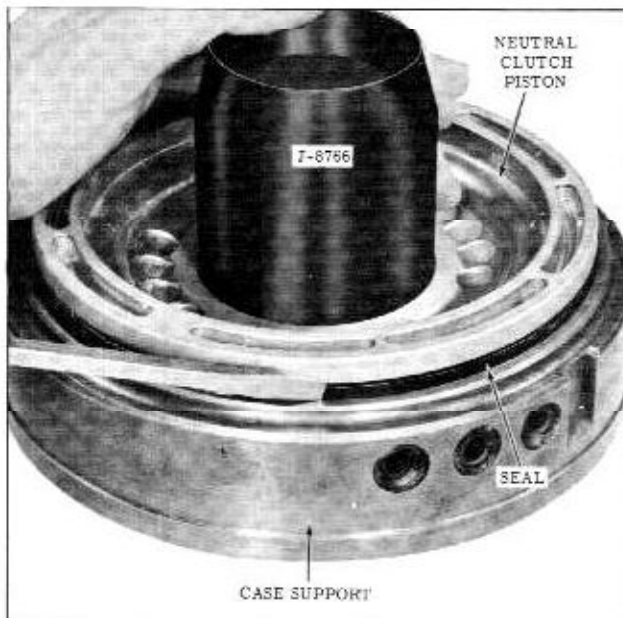

Fig. 3-71 Installing Neutral Clutch Piston
2. Install Inner Seal Protector J-8766 over neutral clutch hub. (Fig. 3-71)